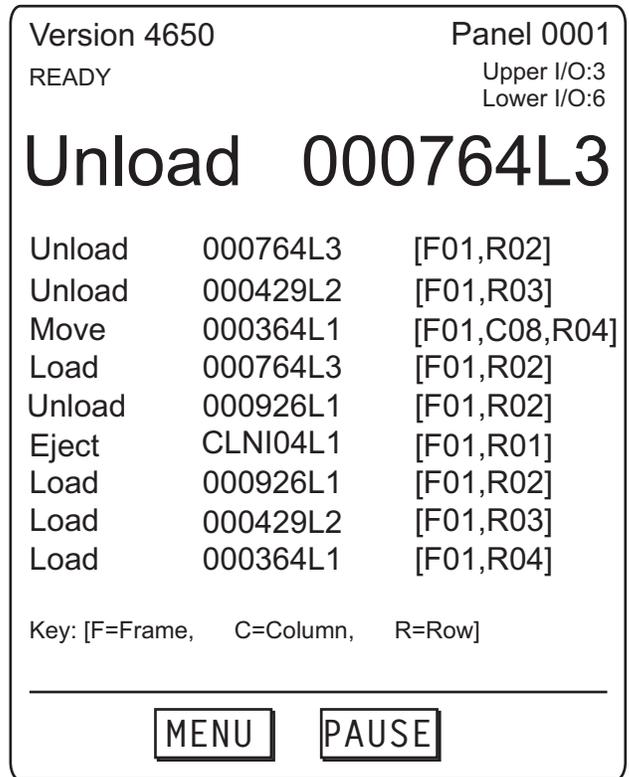

Figure 27. Activity screen on the front panel of the IBM TS3500. Use the screen to pause the library.
1. From the library's Activity screen (see Figure 27 on page 82), press the PAUSE key. The library displays the message **If you open the door the library will go Not Ready and any remaining jobs in the work queue may fail. Press ENTER to continue.**